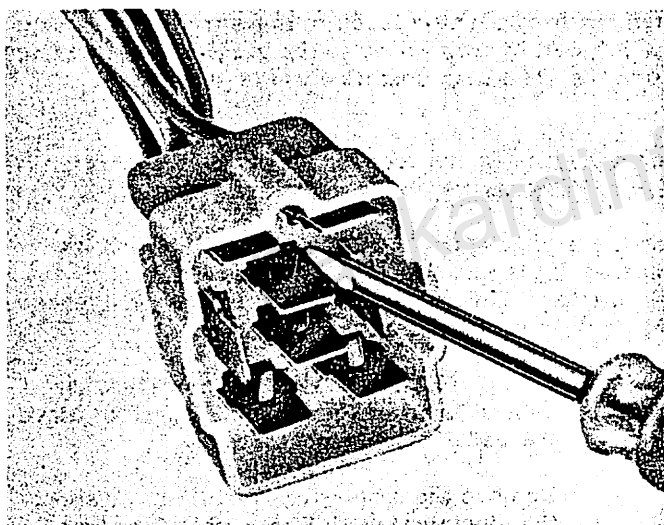

Fig. 8 REMOVING TERMINALS FROM CONNECTOR
2. Remove the wires and terminals from the connector by pressing in on the lip of the terminal, figure 8, with a small thin screwdriver and then pulling the wire and terminal out of the connector. Remove all of the wires from the connector.